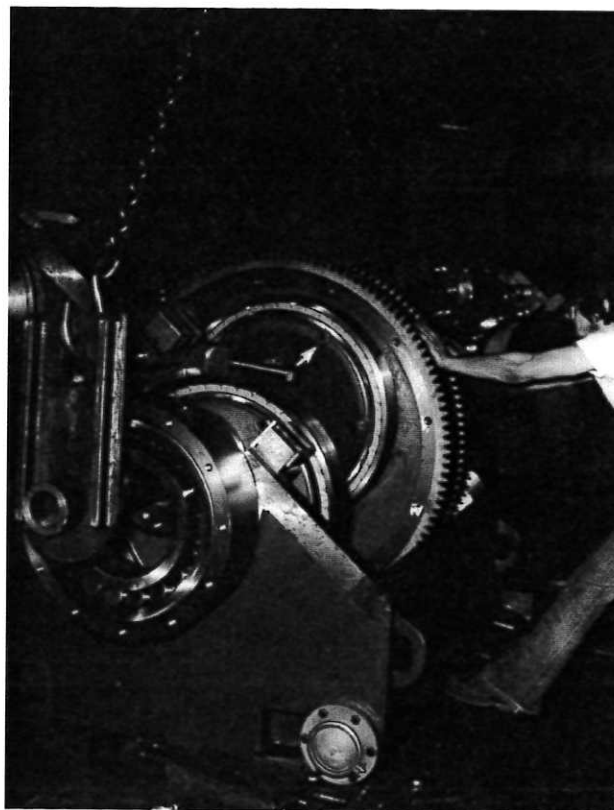
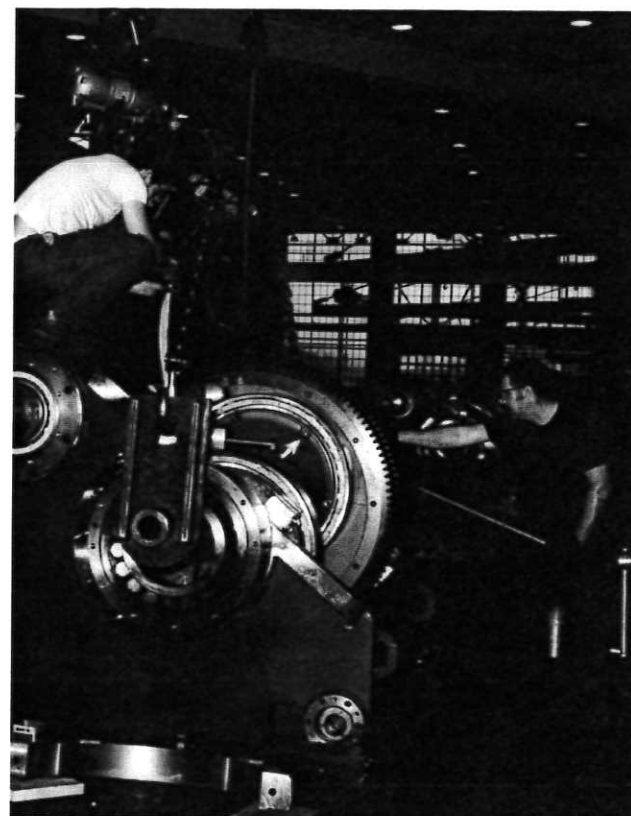

FIGURE 21
FIGURE 22
5. Ease eccentric back and lower into position as connecting rods come to rest on eccentric. Care must be taken as teeth of main gear come in contact with teeth of jackshaft. Refer to FIGURE 21 and FIGURE 22, page 23.